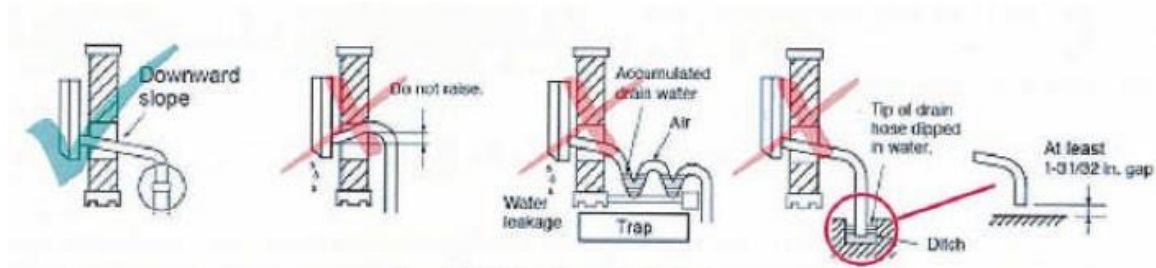

Figure 1. Condensate Drain Pipe Connection
- Ensure that the drain line (pipe) is properly routed through the wall hole and inclined downwards (away from the indoor unit) as shown in Figure 1.